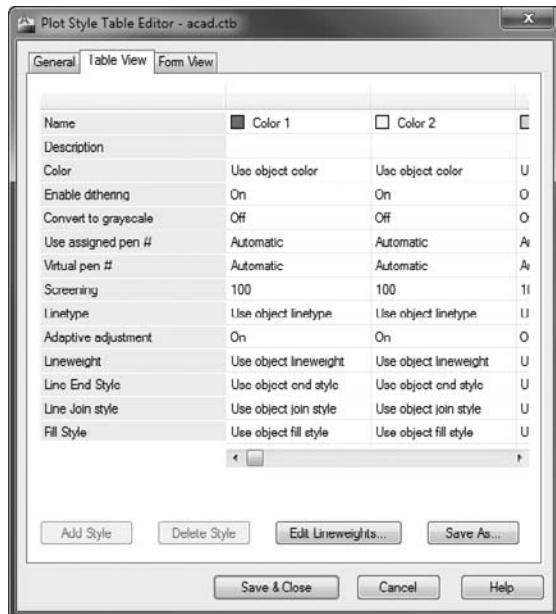

FIGURE 15.13 The Table View tab of the Plot Style Table Editor dialog box for the acad.ctb file
- Click the Table View tab (see Figure 15.13). Now you see the plot styles across the top and the plot-style properties listed down the left side. This tab organizes the information like a spreadsheet. Use the scroll